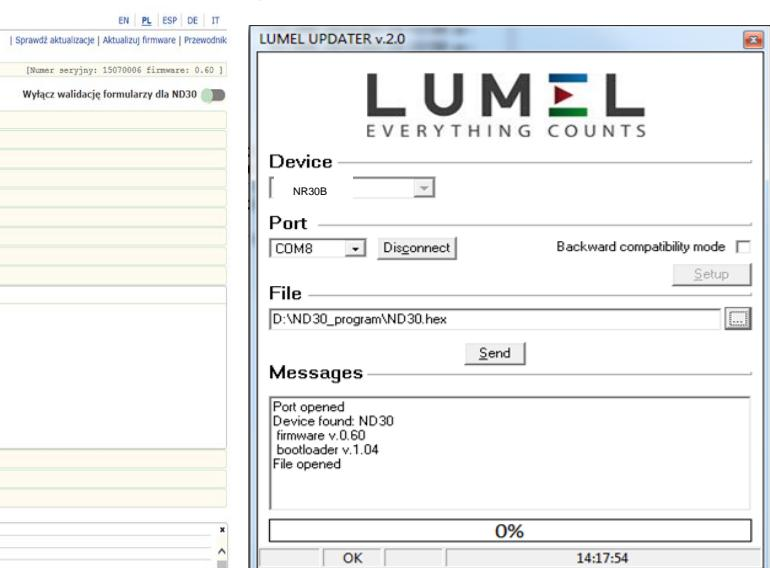

Fig.24. View of program window: a) eCon, b) firmware upgrade
After starting eCon the serial port, speed, mode and meter address should be set in the settings. Then select NR30BAC meter and click Configure To read all the settings, click the down arrow, then the floppy icon to save the settings to a file (to restore them later). After selecting *Update firmware* (in the upper right corner of the screen) *Lumel Updater* (LU) window will open - Fig. 24.b. Press Connect. Messages information window contains info about the progress of the upgrade process. When the port is properly opened the display shows: *Port opened*. There are two ways to enter the upgrade mode: remotely through the LU (based on settings in eCon - address, mode, speed, COM port) and by turning on the meter power with the button pushed (when entering the bootloader mode with the button, communication parameters: speed 9600, RTU8N2, address 1). The display will show boot with bootloader version, and LU program will show the message *Device found* and the name and program version of the connected device. Press the „...” button and select the meter update file. When the file is properly opened *File opened* message is displayed. Press the Send button. After successful upgrade the meter switches to normal operation, and the information window shows *Done* and the upgrade duration. After closing the LU window, go to *Service Parameters*, select *Set Meter Defaults* and press the *Restore* button. Then press the folder icon to open the previously saved settings file and press the up arrow to save the settings in the meter. The current software version can also be checked by reading the greeting messages of the meter after powering up.